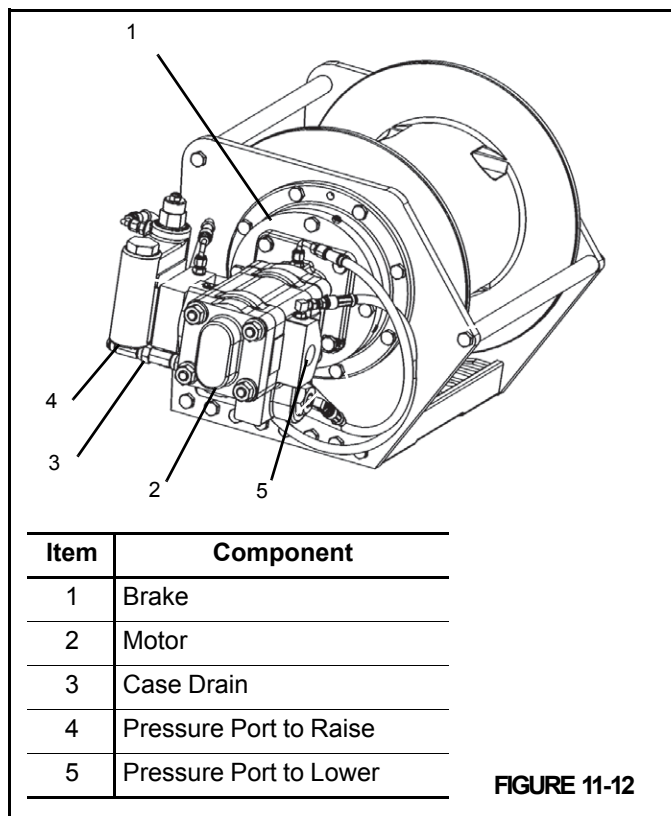

FIGURE 11-12
**NOTE:** See Figure 11-12 for item identification.